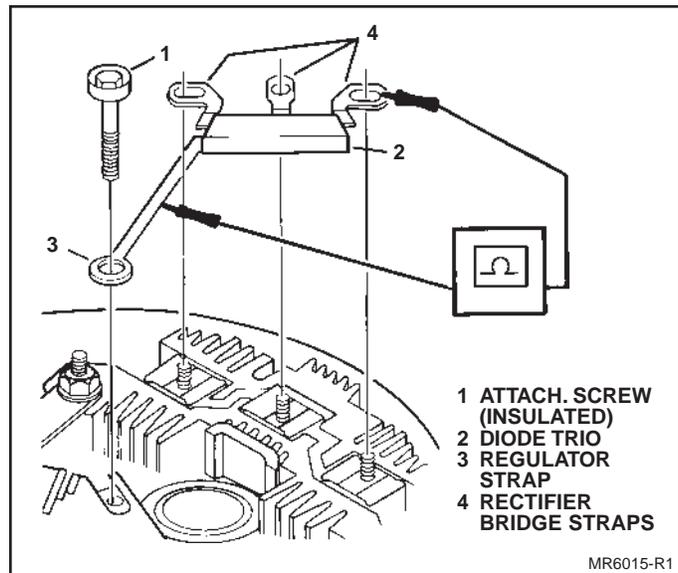

Figure 16. Electrical Check of Diode Trio
8. Remove insulated regulator attaching screw to disconnect diode trio (Fig. 16). Lift trio from SRE assembly.
9. Use ohmmeter to check diode trio (Fig 16). Place negative ohmmeter lead on regulator strap and use positive ohmmeter lead to check for continuity to each of the three rectifier bridge straps. All three readings should indicate continuity. Reverse the ohmmeter leads and perform checks again. Readings should all indicate open circuits.